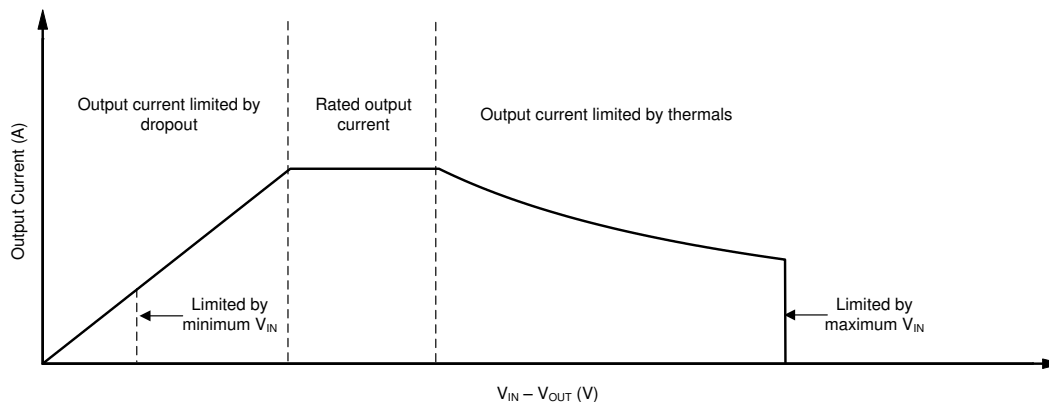

Figure 7-3. Region Description of Continuous Operation Regime
The operational area of an LDO is limited by the dropout voltage, output current, junction temperature, and input voltage. The recommended area for continuous operation for a linear regulator is given in Figure 7-3 and is separated into the following parts:
- The shape of the slope is depicted in the third region of Figure 7-3. The slope is nonlinear because the maximum-rated junction temperature of the LDO is controlled by the power dissipation across the LDO. Thus, when $V_{IN} - V_{OUT}$ increases the output current decreases.
Figure 7-3 shows the recommended area of operation for this device on a JEDEC-standard high-K board with a $R_{\theta JA}$, as given in the Thermal Information table.